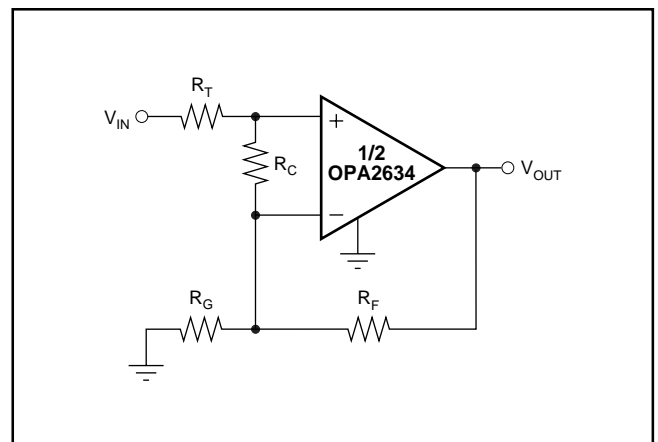

FIGURE 6. Compensated Non-Inverting Amplifier.
Figure 6 shows a non-inverting amplifier that reduces peaking at low gains. The resistor  $R_C$  compensates the OPA2634 to have higher Noise Gain (NG), which reduces the AC response peaking (typically 5dB at  $G = +1$  without  $R_C$ ) without changing the DC gain.  $V_{IN}$  needs to be a low impedance source, such as an op amp. The resistor values are low to reduce noise. Using both  $R_T$  and  $R_F$  helps minimize the impact of parasitic impedances.
A good rule of thumb is to target the parallel combination of  $R_F$  and  $R_G$  (Figure 6) to be less than approximately  $400\Omega$ . The combined impedance ( $R_F \parallel R_G$ ) interacts with the inverting input capacitance, placing an additional pole in the feedback network and thus, a zero in the forward response. Assuming a  $3pF$  total parasitic on the inverting node, holding  $R_F \parallel R_G < 400\Omega$  will keep this pole above  $130MHz$ . By itself, this constraint implies that the feedback resistor ( $R_F$ ) can increase to several  $k\Omega$  at high gains. This is acceptable as long as the pole formed by  $R_F$ , and any parasitic capacitance appearing in parallel, is kept out of the frequency range of interest.
The criterion for setting this  $R_S$  resistor is a maximum bandwidth, flat frequency response at the load. For a gain of +2, the frequency response at the output pin is already slightly peaked without the capacitive load, requiring relatively high values of  $R_S$  to flatten the response at the load. Increasing the noise gain will also reduce the peaking, reducing the required  $R_S$  value (see Figure 6).